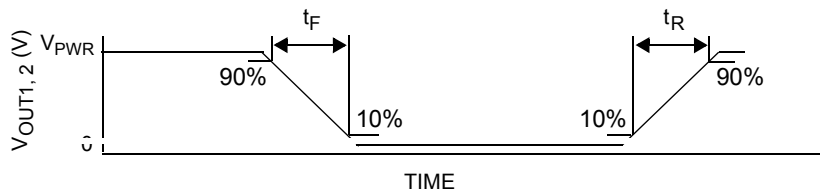

Figure 6. Output Switching Time
27. Rise Time is from the 10% to the 90% level and Fall Time is from the 90% to the 10% level of the output signal with  $V_{\text{PWR}} = 14\text{ V}$ ,  $R_{\text{LOAD}} = 3.0\text{ ohm}$ . See Figure 6, page 10.